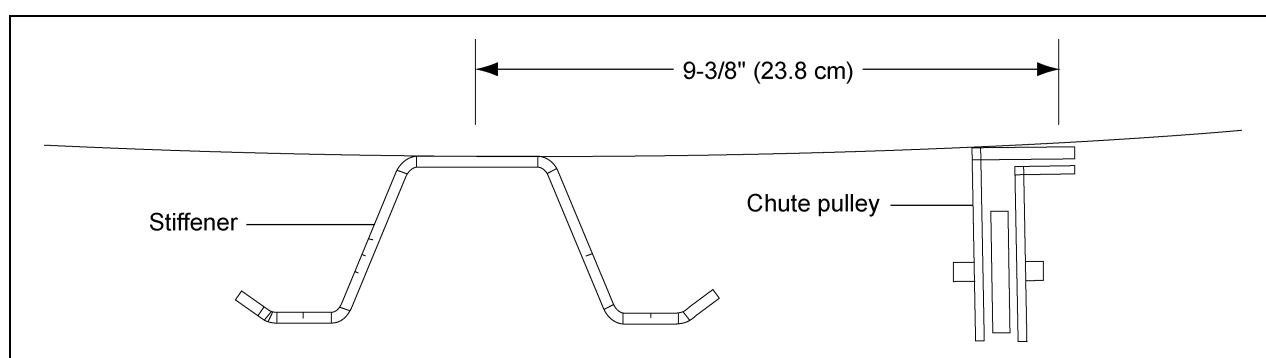

Figure 4A
1. Position the pulley in the hole that is located 9-3/8" (23.8 cm) horizontally from the center of the stiffener. **NOTE:** When positioning the pulley, ensure the pulley cable does not interfere with the dump chutes. This can only be accomplished at every other stiffener. (See Figure 4A below and Figure 3A on Page 12.)